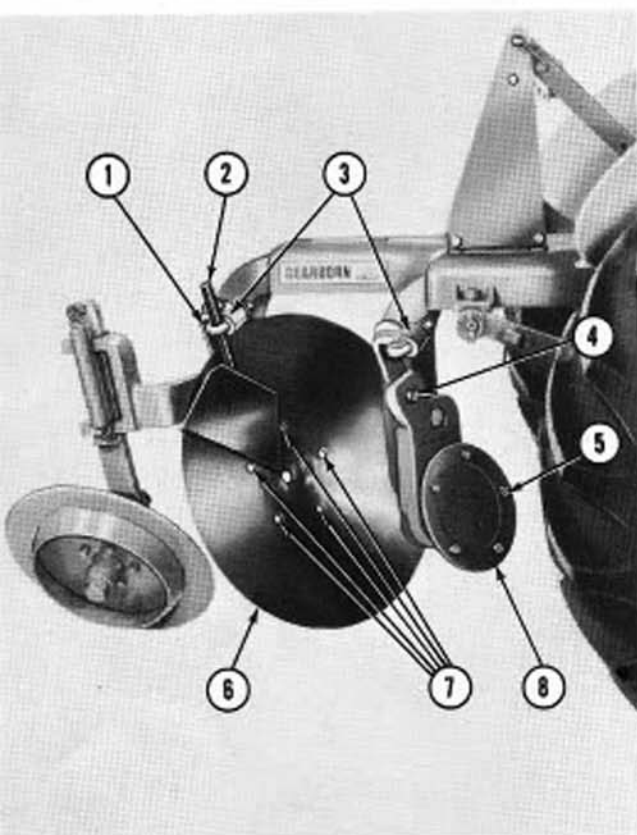

Figure 4
- a. Position the scraper mounting brackets (3), Figure 4, on the top rear of the disc bearing boxes and secure with bolts, lockwashers and nuts as shown at (4).
- b. Remove the five bolts (5), Figure 4, from the holes in each disc mounting spindle (8). **NOTE: These bolts were placed in the spindles in reverse position to prevent damage in shipping.**
- c. Position a disc (6), Figure 4, (discs are interchangeable) on each mounting spindle (8) and insert the five plow bolts (7) so that the flat heads fit the contour of the disc as shown.
- d. Tighten the nuts on the bolts (7), Figure 4, until the discs are securely attached to each mounting spindle.
- e. Place the scraper stem (2), Figure 4, through the eye bolt (1). Adjust the scraper until the point is approximately  $\frac{1}{2}$ " from the center of the disc with the blade as close as possible to the disc face, then tighten the nut on the eye bolt (1) securely.